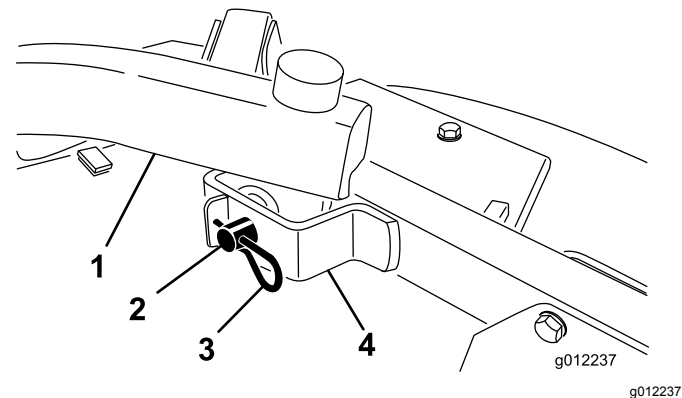

Figure 25
2. Remove the hairpin cotters and clevis pins securing the lift arms to the castor arm brackets (Figure 25).